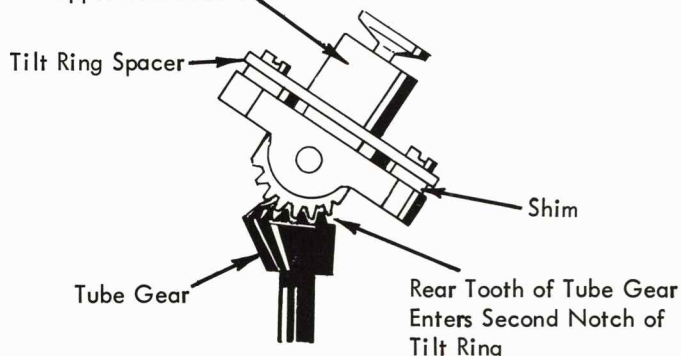

FIGURE 49. Upper Ball Socket Adjustment
The tilt ring can easily be removed if the machine is half cycled to a two tilt position. On machines prior to the gearless tilt mechanism, care should be taken to insure that the tilt sector gears are properly meshed whenever the tilt ring is installed. The rear tooth of the tube sector gear should enter the second notch of the tilt ring sector gear (Fig. 49).
4. Upper Ball Socket - The upper ball socket must rotate completely free of binds with little or no up and down play. The adjustment is made by raising or lowering the tilt ring spacer by installing thicker or thinner shims at the front and rear (Fig. 49).